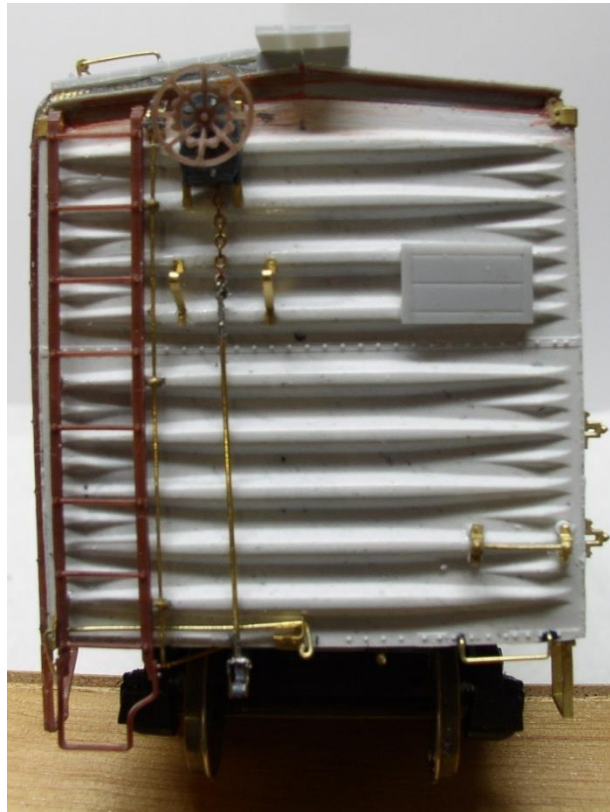

Figure E13
17. Test fit the Brake Platform Brackets to make certain that when installed, they will provide a level surface for the Brake Platform. Attach the bracket closest to the centre 6.25" from the centre. Attach the bracket closest to ladder 21" to the left of the other bracket. See Figure E13.